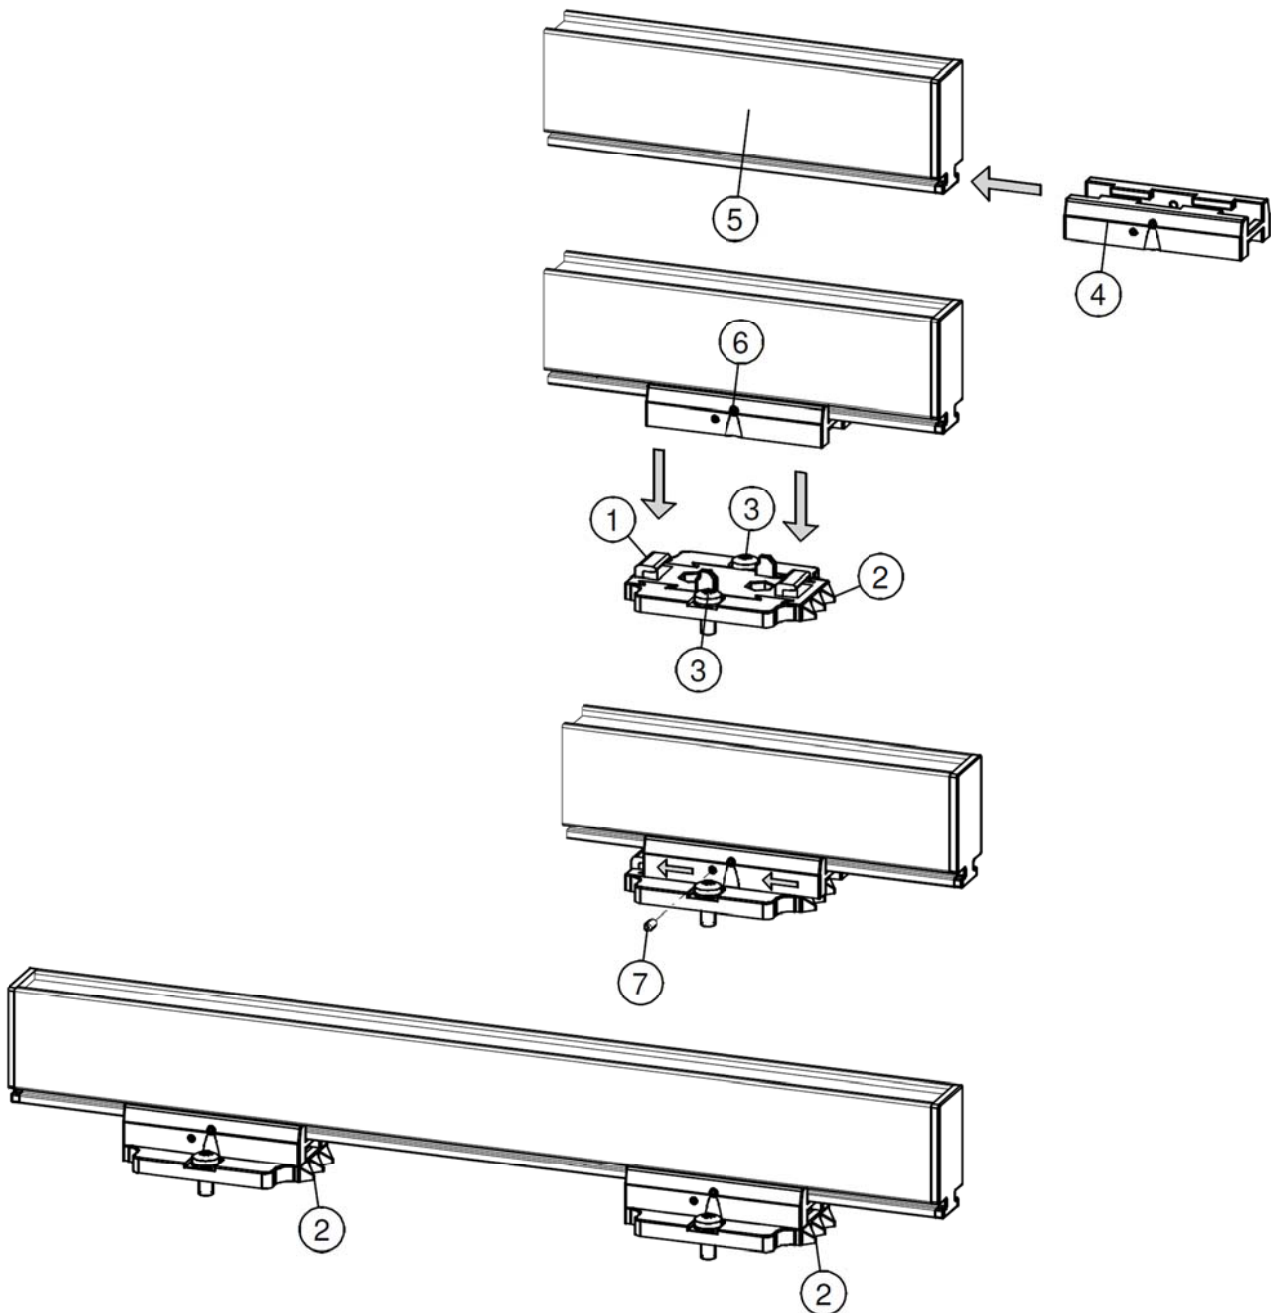

Figure 7: Fixing Sensor with mounting brackets
- **Conductive machine parts close to an IQ Easy Sensor may have a negative influence on its effectiveness. For the best results the Sensor should be mounted according to figure 7.**
- Unscrew the adjusting screws (nr. 7) from the brackets (see figure 7).